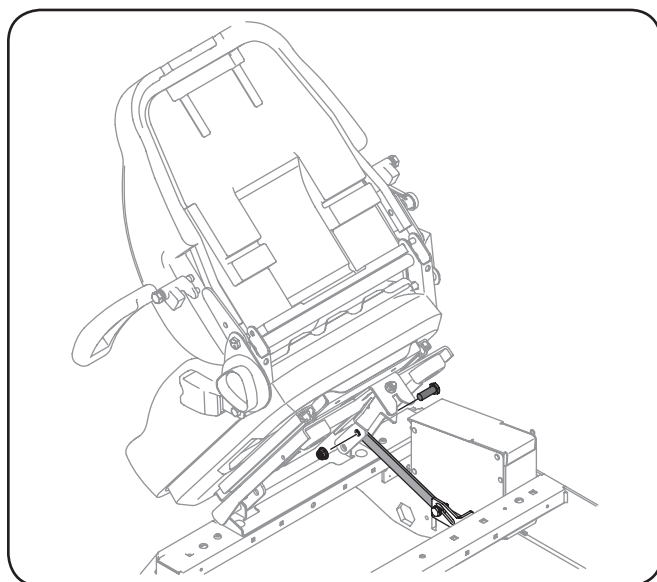

Figure 3-11
3. Remove the shoulder screw and flange lock nut from the manual bag and install the support cable/rod with the hardware as shown in Figure 3-11.